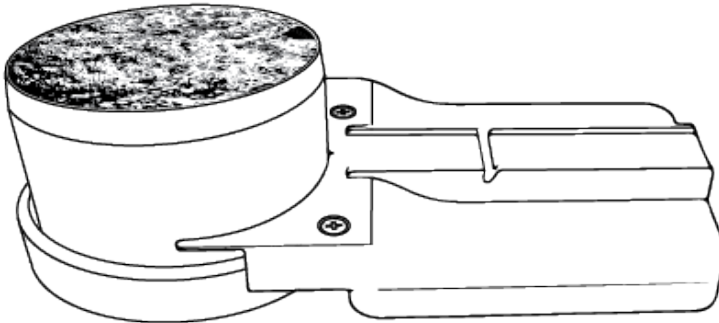

Figure 9 Soil sampling ring on installation tool after KSAT measurement
6. If a KSAT measurement has been taken before, the KSAT red gasket sets the sample higher and both tool parts must be used to reach the correct height (Figure 9).